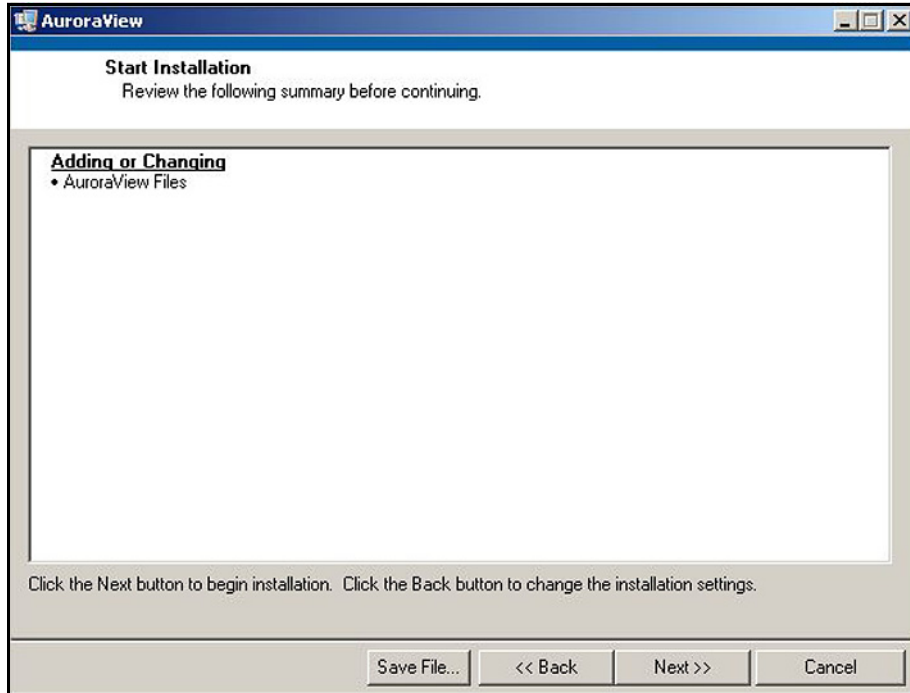

Figure 25: Starting the Installation
7. The next screen (see *Figure 25* below) provides instructions for initiating the installation. When ready, click Next to begin.